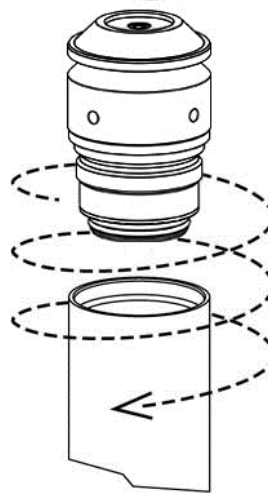

Figure 27. Piston-cylinder module installation
- ❶ Connect the PG7601 Terminal to the PG7601 platform rear with 25 pin cable.
- ❷ Connect the PG7601 power cord from the PG7000 Terminal to the power strip underneath the bench. **Do not power up the PG7601.**
- ❸ Remove the PG7000 Platform mounting post plug. Unscrew the ORANGE plastic mounting post plug that is installed in the PG7000 Platform mounting post. Rotate counterclockwise to remove.
- ❹ Remove the PC-7100/7600-10, TC piston-cylinder module from its bullet case. Open the bullet case by rotating its lid counterclockwise. Remove the piston-cylinder module from the bullet case base by unthreading it from the case. Hold the piston-cylinder module body by the knurled area and rotate it counterclockwise.
- ❺ Place the piston-cylinder module (thread down) into the PG7601 mounting post (see Figure 27). Rotate the piston-cylinder module clockwise until all threads are engaged and there is NO gap between the piston-cylinder module and the PG7601 mounting post. Slight resistance will be encountered in the second half of travel as the piston-cylinder module O-rings seat in the mounting post.